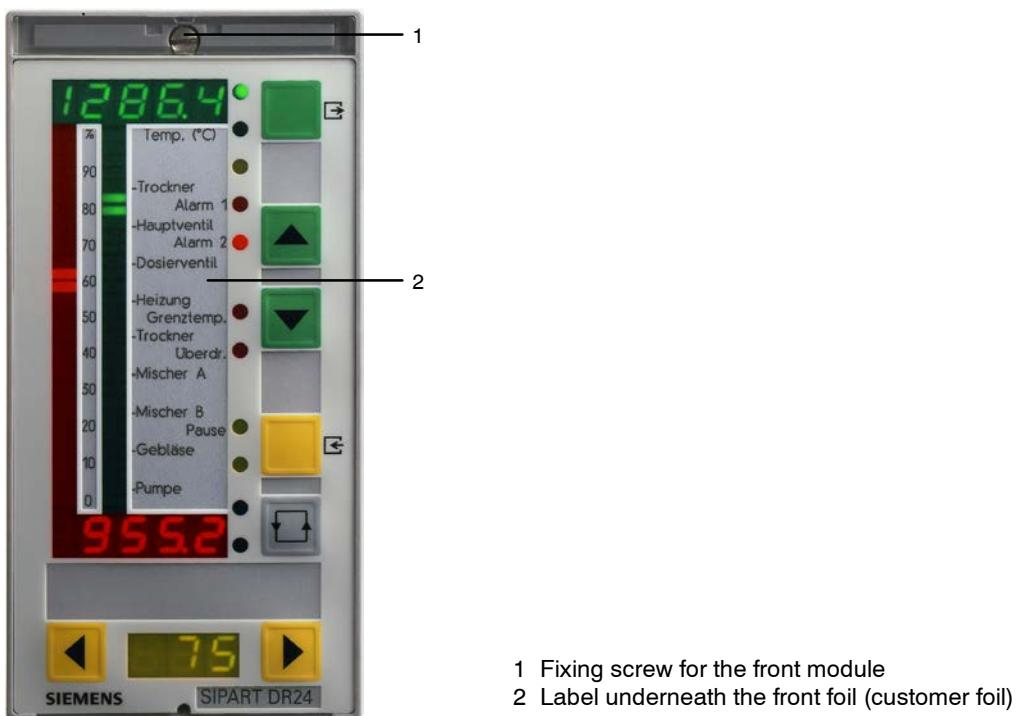

Figure 5-1 Front module with rating plate and cover removed
- Loosen screw (captive) (see (1) Figure 5-1, page 170).